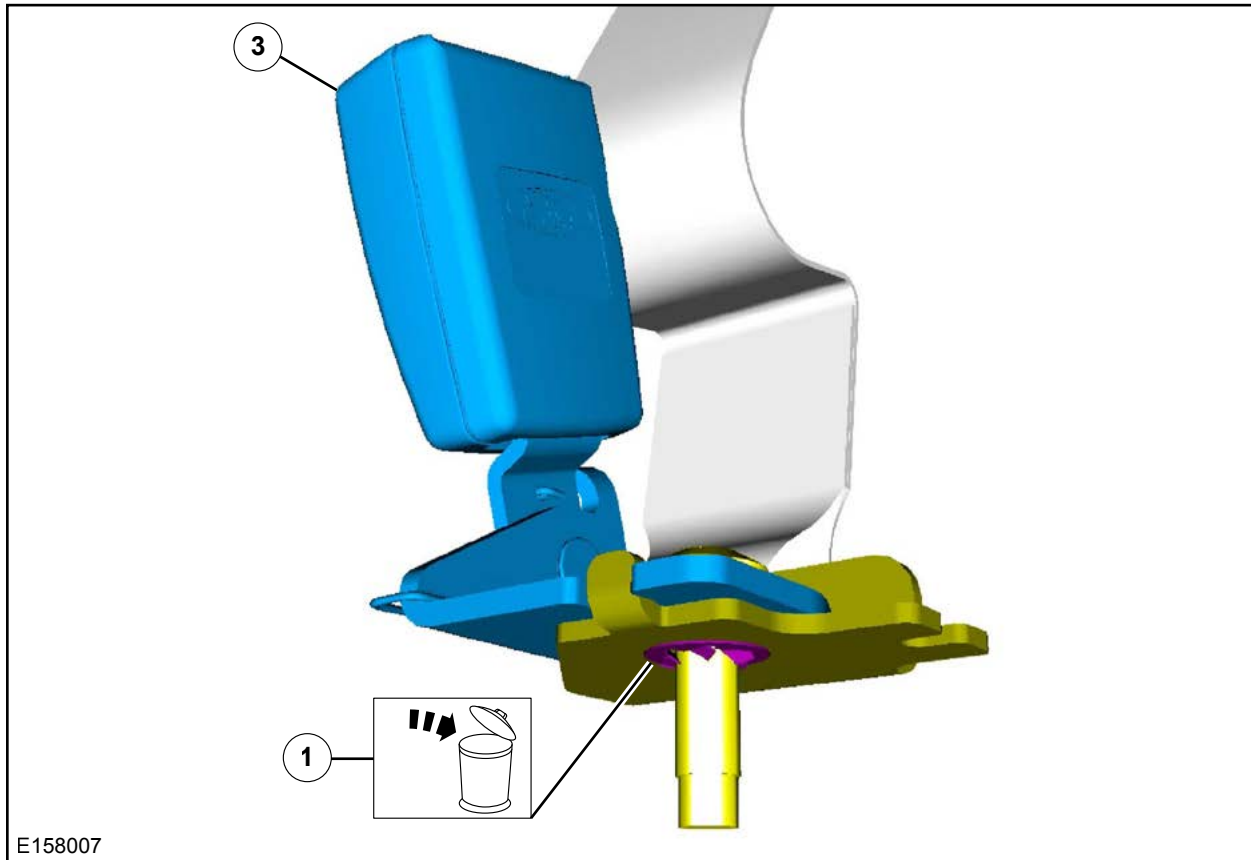

FIGURE 5
7. Remove and discard the LH safety belt anchor bolt retainer. See Figure 5.